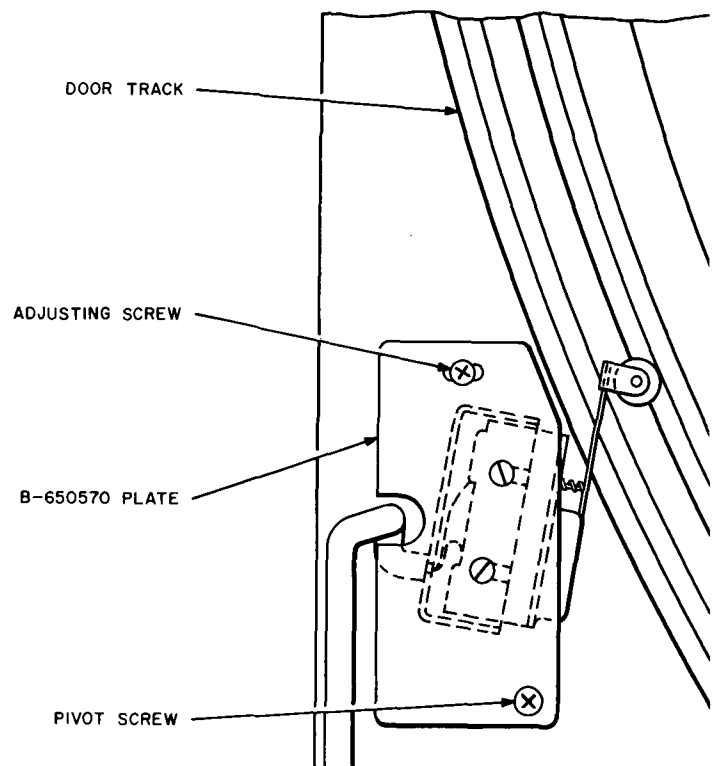

Fig. 1 - B-650626 Door Operated Micro Switch Assembly
4.01 The blower motor and, in some cases, the light fixture are controlled by a door operated micro switch assembly (B-650626) (Fig. 1). If the switch is not making or breaking properly, it should be adjusted as follows:
- (1) Remove roof from booth.
- (2) Loosen the adjusting screw (Fig. 1).
- (3) Slide the switch mounting plate in or out as necessary.
- (4) Open and close the door to determine the proper switch position.
- (5) Tighten the adjusting screw.
- (6) Install the roof.